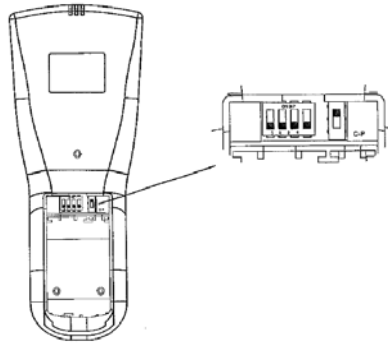

Figure 7
- 2) Slide the CHILD PROOF switch to the “CP” position to activate the Child Proof function as shown in Figure 7. “CP” will appear on the LCD screen.
factory setting is all in the Off position. You may slide the code switched to your choice of On or Off positions. See Figure 7.